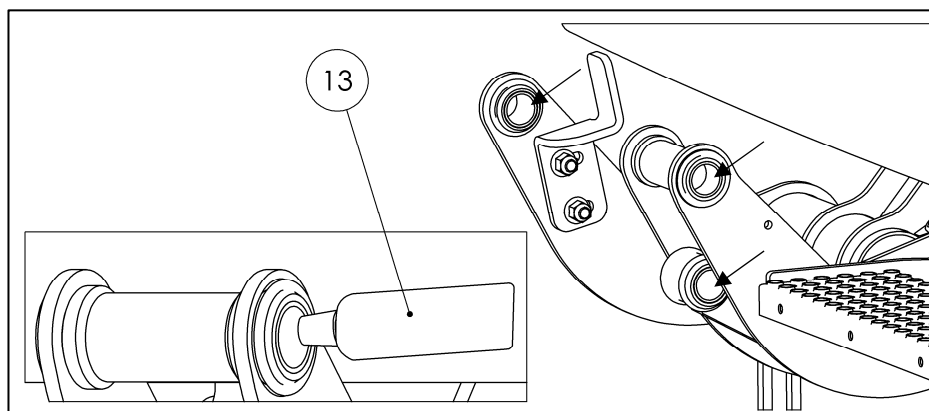

Fig. 51
- Thoroughly grease the bearing bushes with the special assembly grease (accessories kit parts list – Item No. 13) (see Fig. 51).